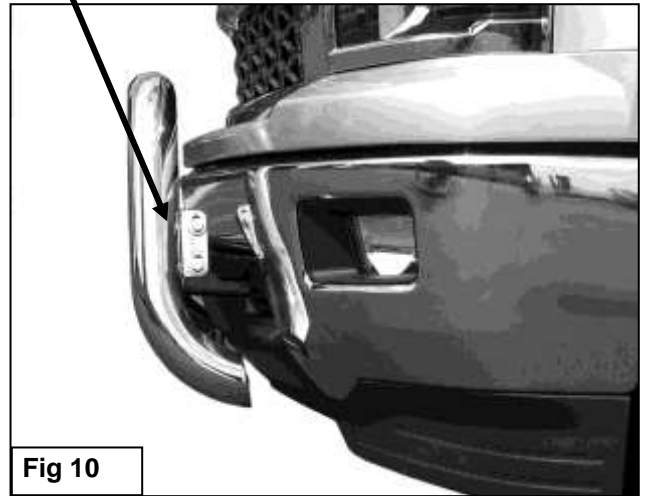

Fig 10
8. With assistance, hold the Bull Bar up in position on the outside of the Mounting Brackets. Bolt the Bull Bar to the Brackets with (4) 10mm x 30mm Hex Bolts, (8) 10mm Flat Washers and (4) 10mm Nylon Lock Nuts, **(Figure 10)**. Do not tighten hardware at this time.